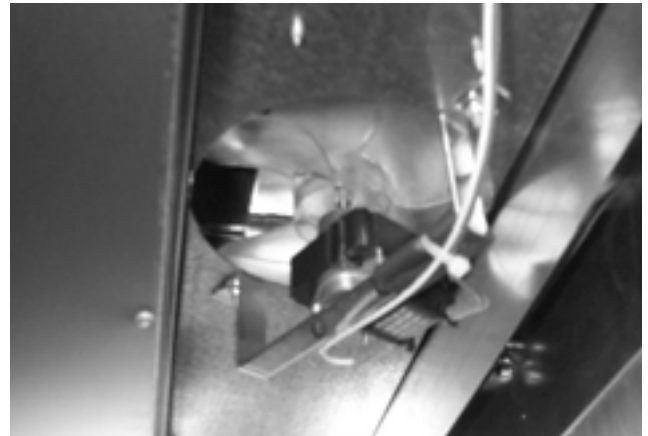

Figure 4-3
3. Using a 1/4" nut driver, remove the (2) motor mounting screws and separate the motor from the bracket (Figure 4-3).